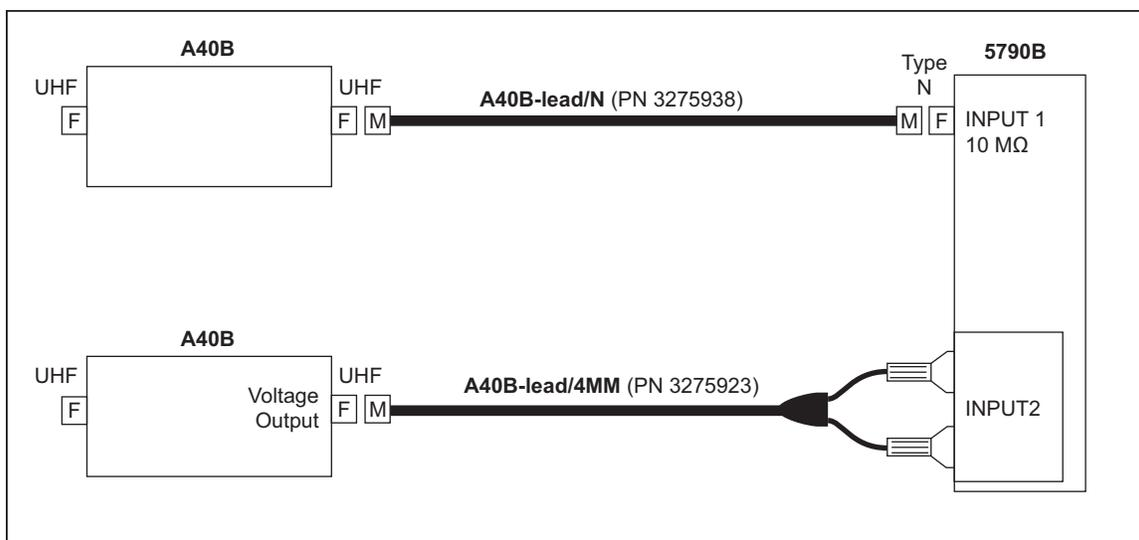
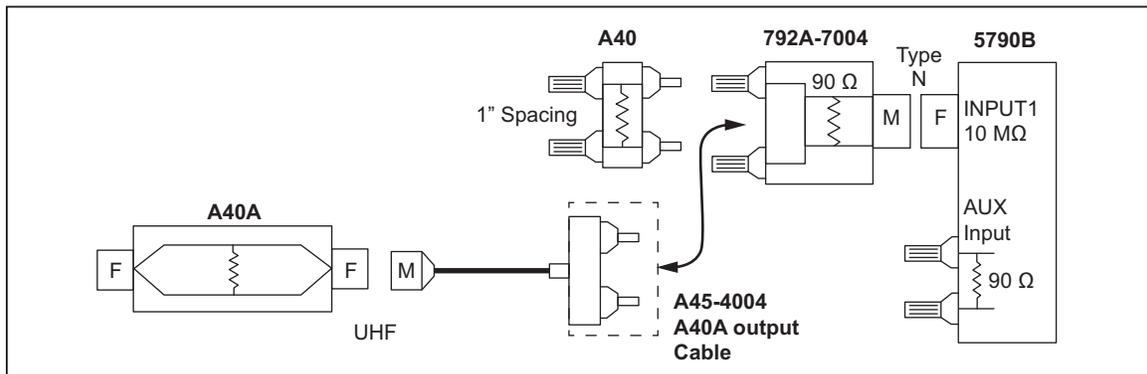

Figure 4-3. Measuring Absolute Current Using A40B
Figure 4-4. Measuring Relative Current Using 792A-7004
Use accessory 792A-7004 to connect the Fluke A40/A40A Current Shunts to INPUT 1 and make current measurements, see Figure 4-4. The 792A-7004 has an internal $90\ \Omega$ resistor for direct connection to the A40/A40A current shunts for relative current measurements.
To use the INPUT 1 and the 792A-7004 the adapter, see Figure 4-4:
Use the 5790B-7001 accessory to connect the Fluke A40 or A40A Current Shunts to the Product AUX input to make current transfers up to 20 A (see Figure 4-4). The Product AUX Input is internally terminated with a 90 Ω resistor that allows for direct connection to current shunts. Connection to A40 and A40A Current Shunts requires the 5790A-7001 accessory which consists of an adapter and cable. The cable is approximately 36 inches long and has a male terminal plug on one end and a UHF (M) connector on the other. This cable connects between the Product AUX Input and the A40A Current Shunt or the adapter (see Figure 4-3). The adapter has a UHF (F) connector on one end and one-inch spaced female banana jacks on the other. This one-inch spacing allows for connection to the A40 Current Shunt.